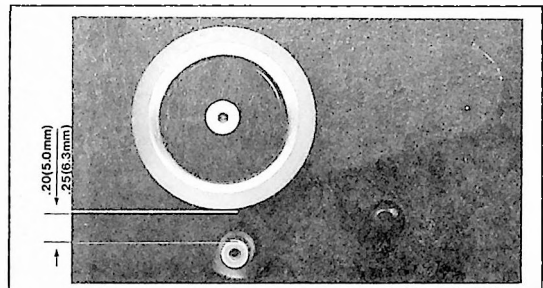

Figure 7-3
- e. For 15,7-1/2 ips capstan the tension reading should be 4.75 to 5 lbs (2.13 to 2.25 kg). For 7-1/2, 3-3/4 ips capstan the tension reading should be 4 to 4.25 lbs (1.8 to 1.91 kg). If not, adjust nut (2) so that a clearance of 1/32 inches (0.79 mm) between the adjusting nut (2) and the arm (7) is achieved with the pinch roller engaged with the capstan.
- g. Check the gap between the pinch roller and capstan. The gap should be about 0.20 to 0.25 inches (5.0 to 6.3 mm). (See Figure 7-3.)